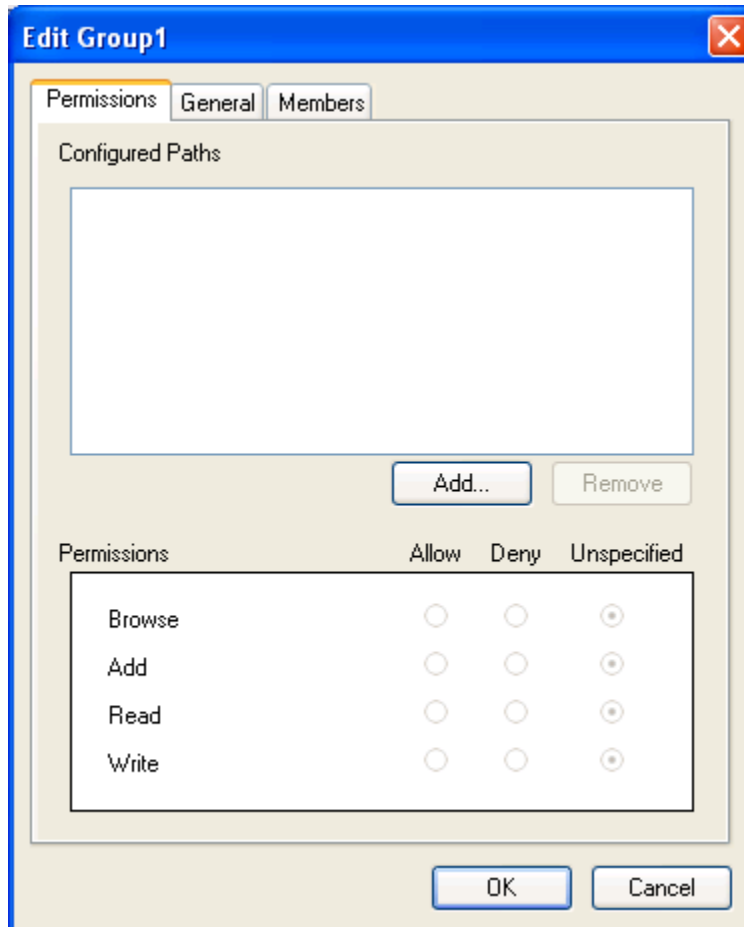

Figure 61 - Edit <Groupname> Window (Permissions Tab)
- The **Edit <Groupname>** window (Figure 61) appears (for NT Groups, there is only the **Permissions** tab). Follow the instructions in the **Edit Group** section for adding permissions.
6. The **Edit <Groupname>** window (Figure 61) appears. Follow the instructions in the **Edit Group** section for adding permissions.
2. The **Edit <Groupname>** window (Figure 61) appears.